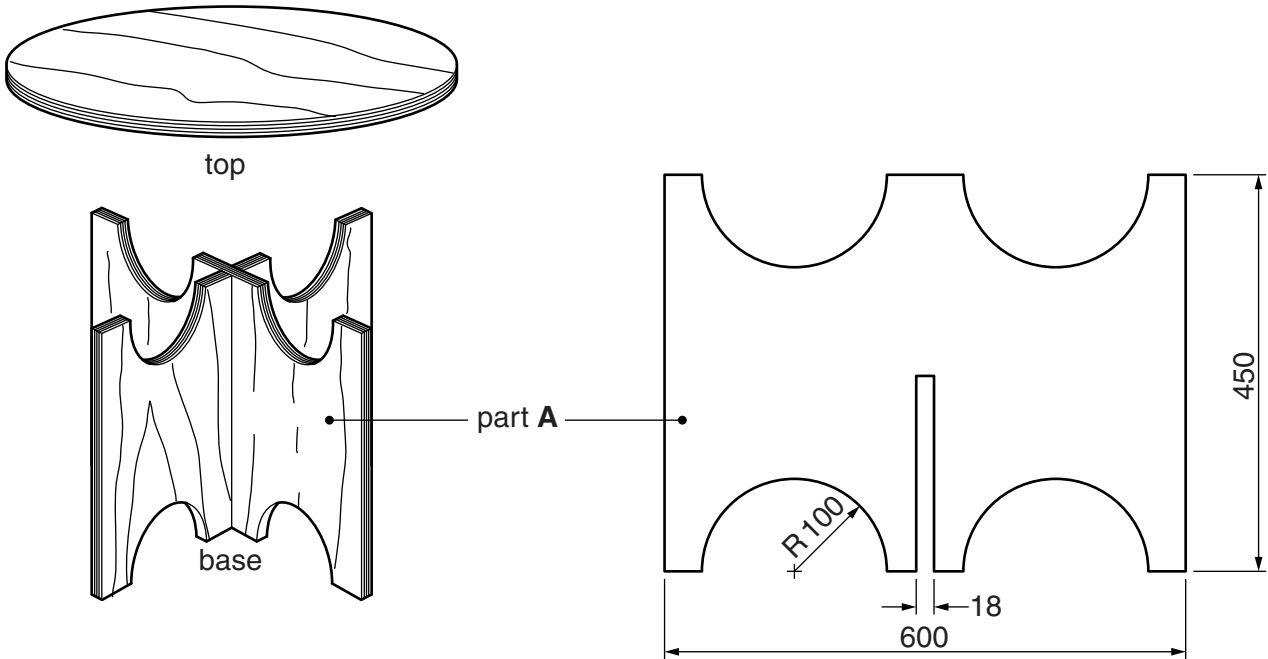

Fig. 1
- 1 Fig. 1 shows a table, made from 18mm thick plywood, which is to be produced in a school workshop.